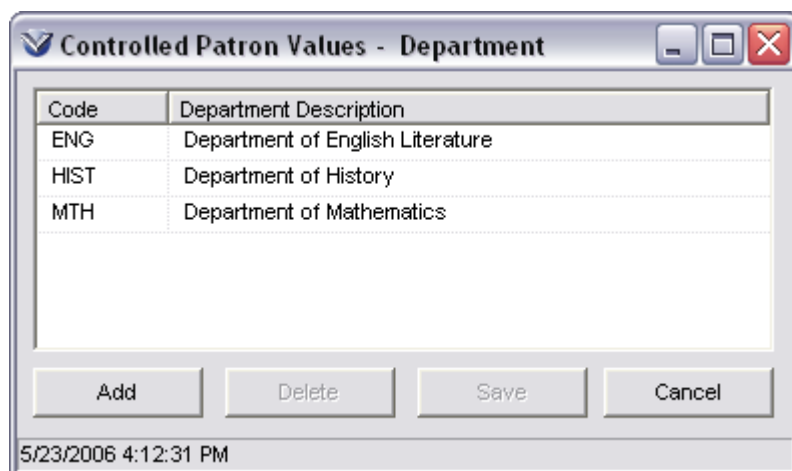

Figure 8-43. Controlled Patron Values - Department Window
Figure 8-43 shows the Controlled Patron Values - Department window. Several controlled patron value codes have already been configured: ENG, HIST, and MTH. Each code corresponds to the text description listed opposite it in the Department Description column.
The Controlled Patron Values window for the category appears (*Figure 8-43*).
1. On the Controlled Patron Values window (*Figure 8-43*), highlight the code or the description you want to modify.
1. On the Controlled Patron Values window (Figure 8-43), place your cursor somewhere in the row that you want to delete.